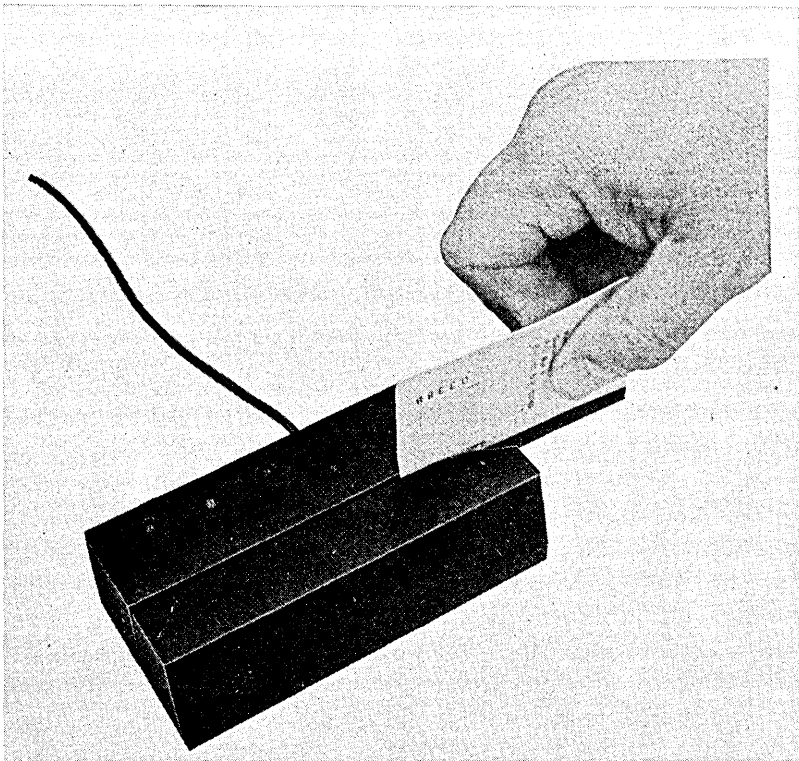
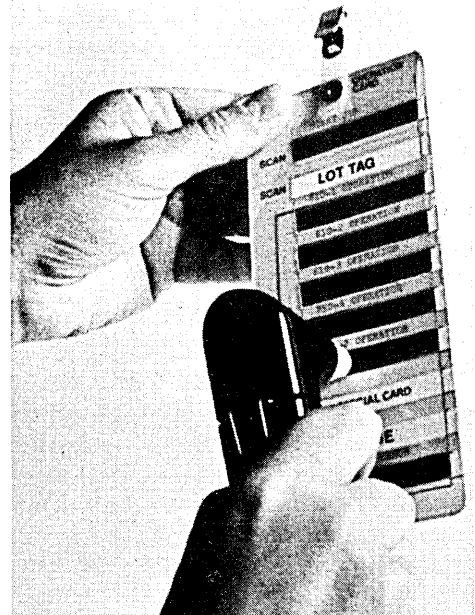

Figure 4-4. Magnetic Slot Reader
Figure 4-5. Magnetic Hand Scanner
The magnetic slot reader and the magnetic hand scanner accessories are for 3278 Display Stations that are used to send coded messages to the host system. The magnetic slot reader (Figure 4-4) or the magnetic hand scanner (Figure 4-5) attaches to your display station through a cable. When your display station is equipped with a reader, you can send a coded message to the host system by passing a special magnetic striped card through the slot in the reader. With a hand scanner, you can send a coded message by passing the scanner over a magnetic stripe. You may be required to use a card reader or a hand scanner when, for example, you begin operating the display station.
3. For the magnetic slot reader, insert the magnetic striped card into the reader as shown in Figure 4-4 and pass the card through the slot in the reader.
4. For the magnetic hand scanner, pass the scanner over the magnetic stripe as shown in Figure 4-5. In some cases, the scanner can be passed over the card in either direction. Check with the proper person in your organization to see whether the magnetic stripe can be read in both directions.